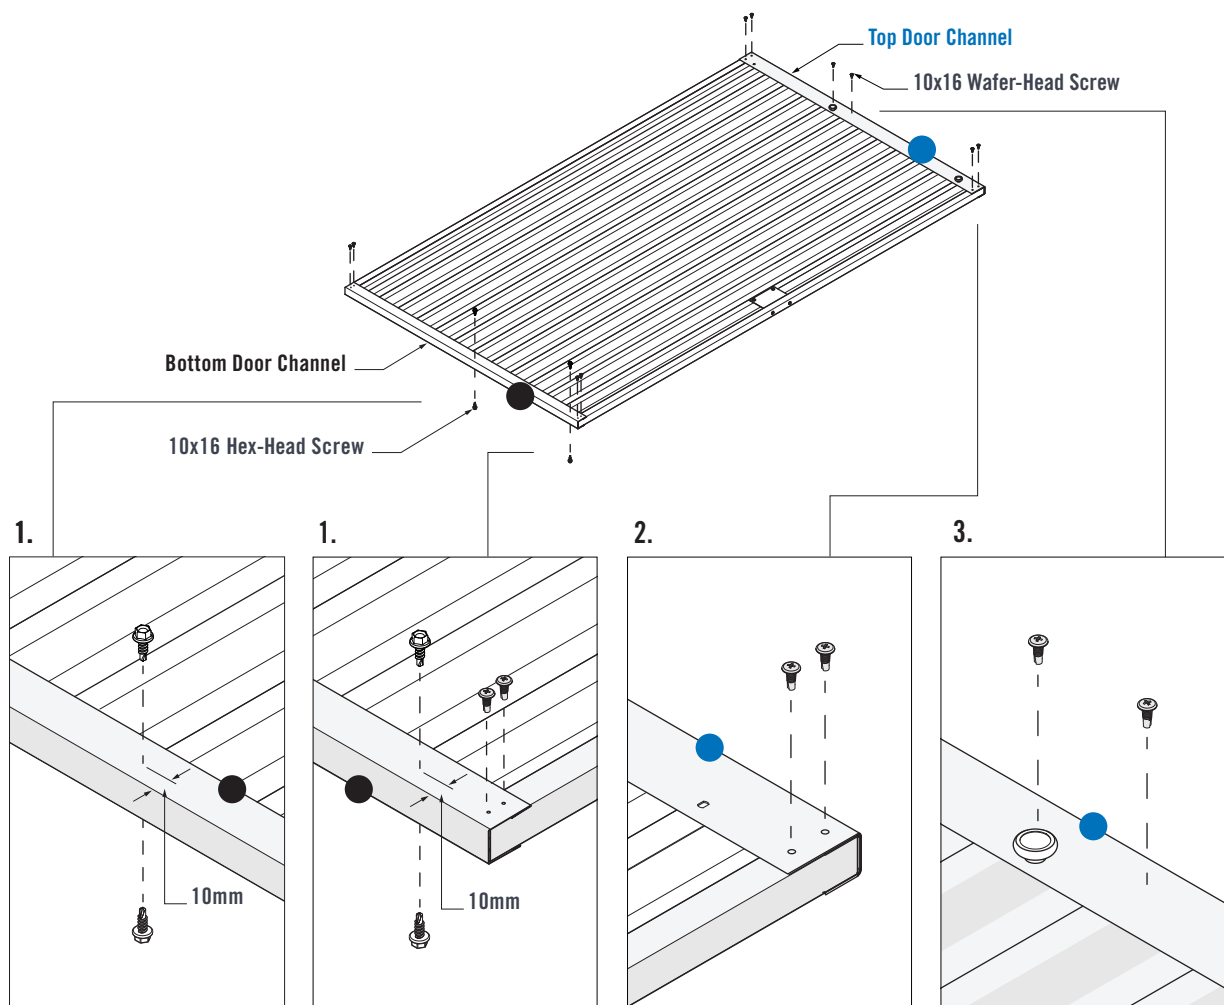

FIGURE 7.6
1. Fasten a 10x16 Hex-Head Screw into the mid-point of the Bottom Door Channel. Ensure the screw is fastened approximately 10mm from the bottom face of the Channel. Fasten a 10x16 Hex-Head Screw near the Handle Mount end of the Bottom Door Channel. Flip over the Door Assembly so that the underside is now facing up. Fasten two more 10x16 Hex-Head Screws in the same manner on the opposite side of the Bottom Door Channel (Figure 7.6).
2. Fasten two 10x16 Wafer-Head Screws through pilot holes in the Top and Bottom Door Channels and into the Vertical Door Channels at all four corners (Figure 7.6).
3. Fasten a 10x16 Wafer-Head Screw through the Top Door Channel and into the two Sheet Crests on both sides of the Door Wheel (Figure 7.6).